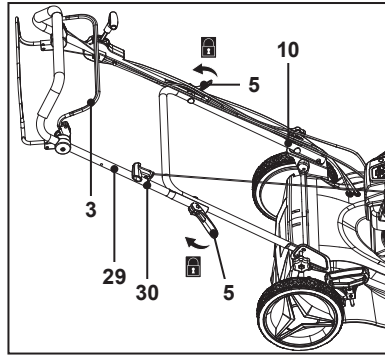

Fig. 3
1. Unfold and loosen the clamp levers (5) anti-clockwise on both sides of the handle bars (10, 29), but do not remove them.
2. Align the mounting holes of the upper handle bar (29) and the lower handle bar (10). Ensure that the upper handle bar (29) with the brake lever (3) facing upwards.
3. Secure the upper handle bar (29) with the lower handle bar (10) by folding up the clamp levers (5) towards the handle bars (10, 29). If the clamp lever (5) cannot be folded, loosen it and fold again. If it is too loose, tighten it by turning the clamp lever (5) clockwise (Fig. 3).
4. Make sure that the pre-assembled hook for recoil start handle (30) rest on your right-hand side (when viewed from operator's position).